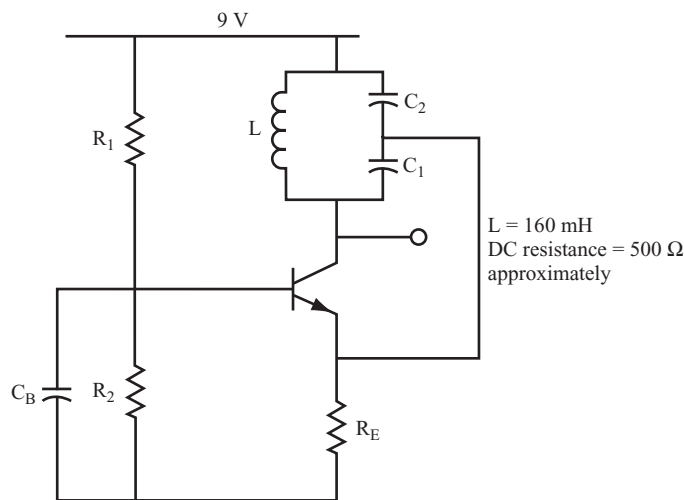

FIGURE 9.26
**24** Figure 9.26 shows a Colpitts oscillator with the parallel LC circuit connected between the collector and the supply voltage. As with the circuits shown in Figures 9.15 and 9.16, this circuit provides a feedback signal to the transistor (in this case, the emitter) in the correct phase to provide positive feedback.
The following table shows possible values you might use for  $C_1$  and  $C_2$  in the circuit shown in Figure 9.26: